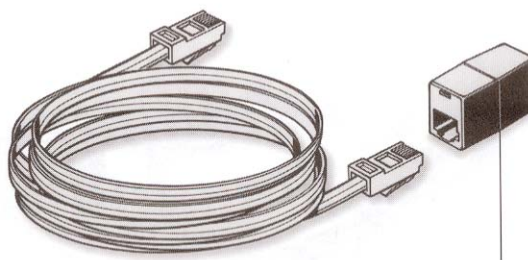

Figure 23. Terminal connector
3. Connect the other end of the terminal connector to the extension loom (See Figure 23)